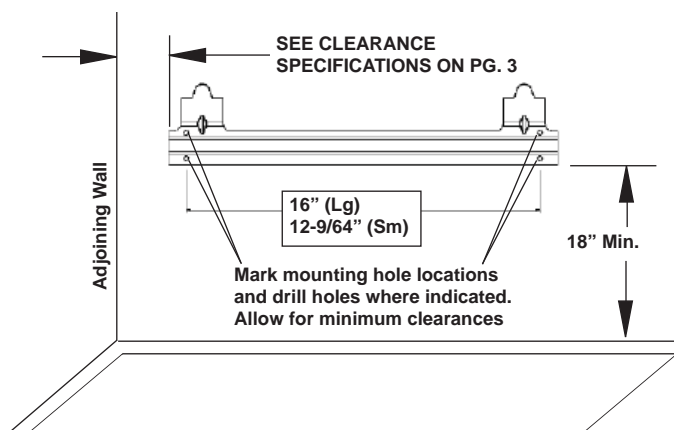

Figure 7
WARNING: Maintain minimum clearances shown in figure 7. If you can, provide greater clearances from the floor and joining wall.
2. Mark screw locations on wall (see figure 7).